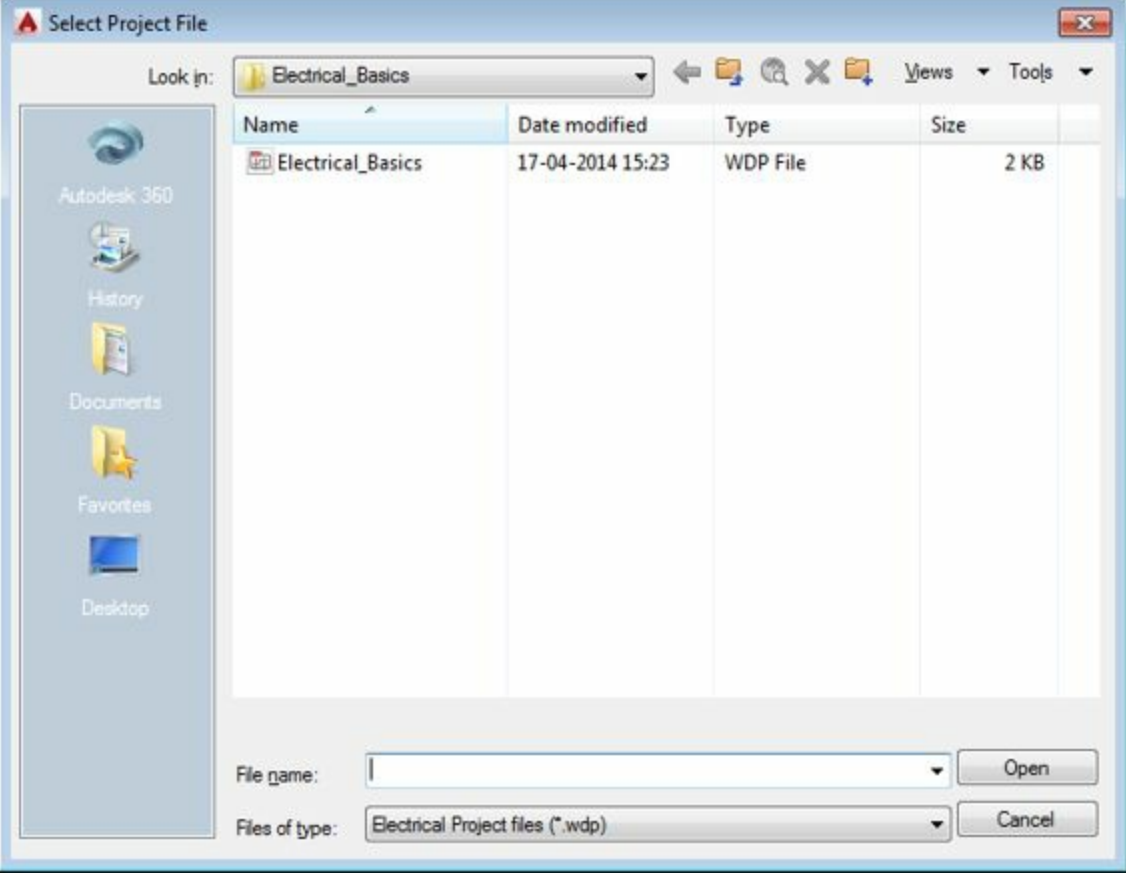

Figure-22. Select Project File dialog box
- Click on the **Open Project** button  from the **Project Manager**. The **Select Project File** dialog box will be displayed as shown in Figure-22.